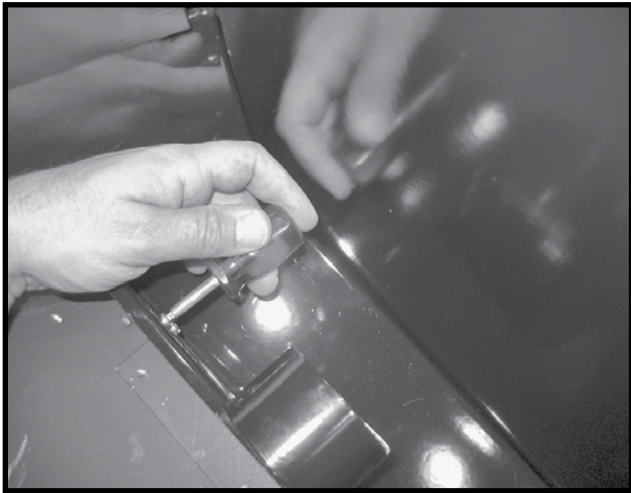

Figure 19: Removing pilot shield.
4. Remove the pilot shield from the burner tray by removing two screws (Figure 19).